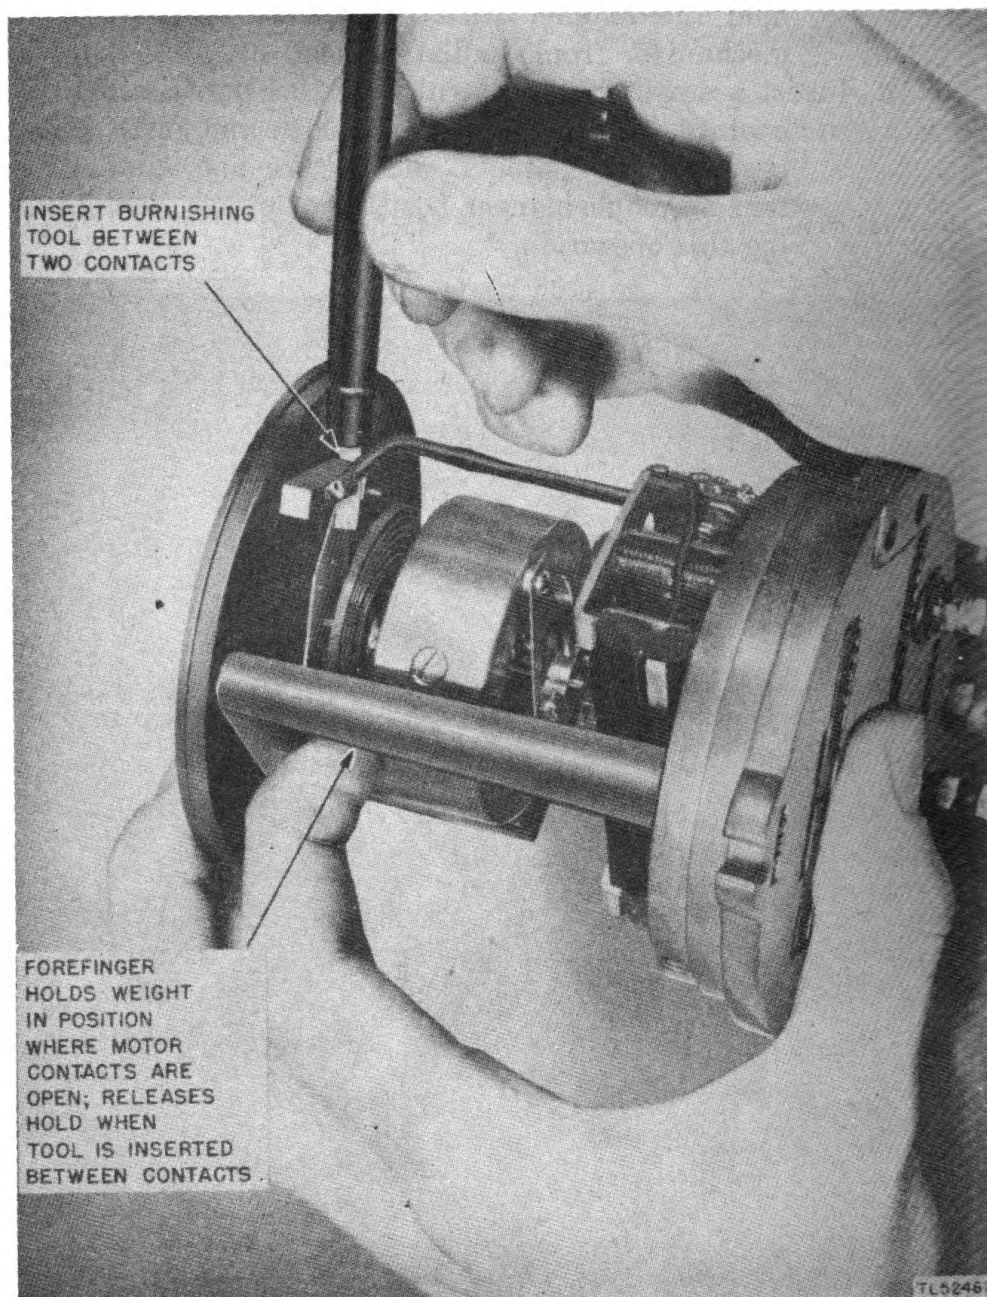

Figure 32. Cleaning clock auxiliary contacts.
1. Grasp the unit by the top plate, hold it upside down, and hold the cylindrical weight with the finger in such a position that the auxiliary contacts will remain open (fig. 32).